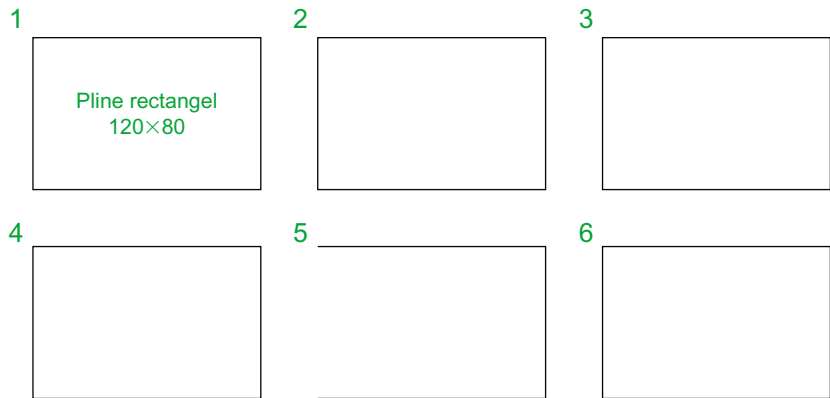

Fig. 3.40 Examples – **Edit Polyline** – the plines to be edited
1. With the **Polyline** tool construct the outlines **1** to **6** of Fig. 3.40.